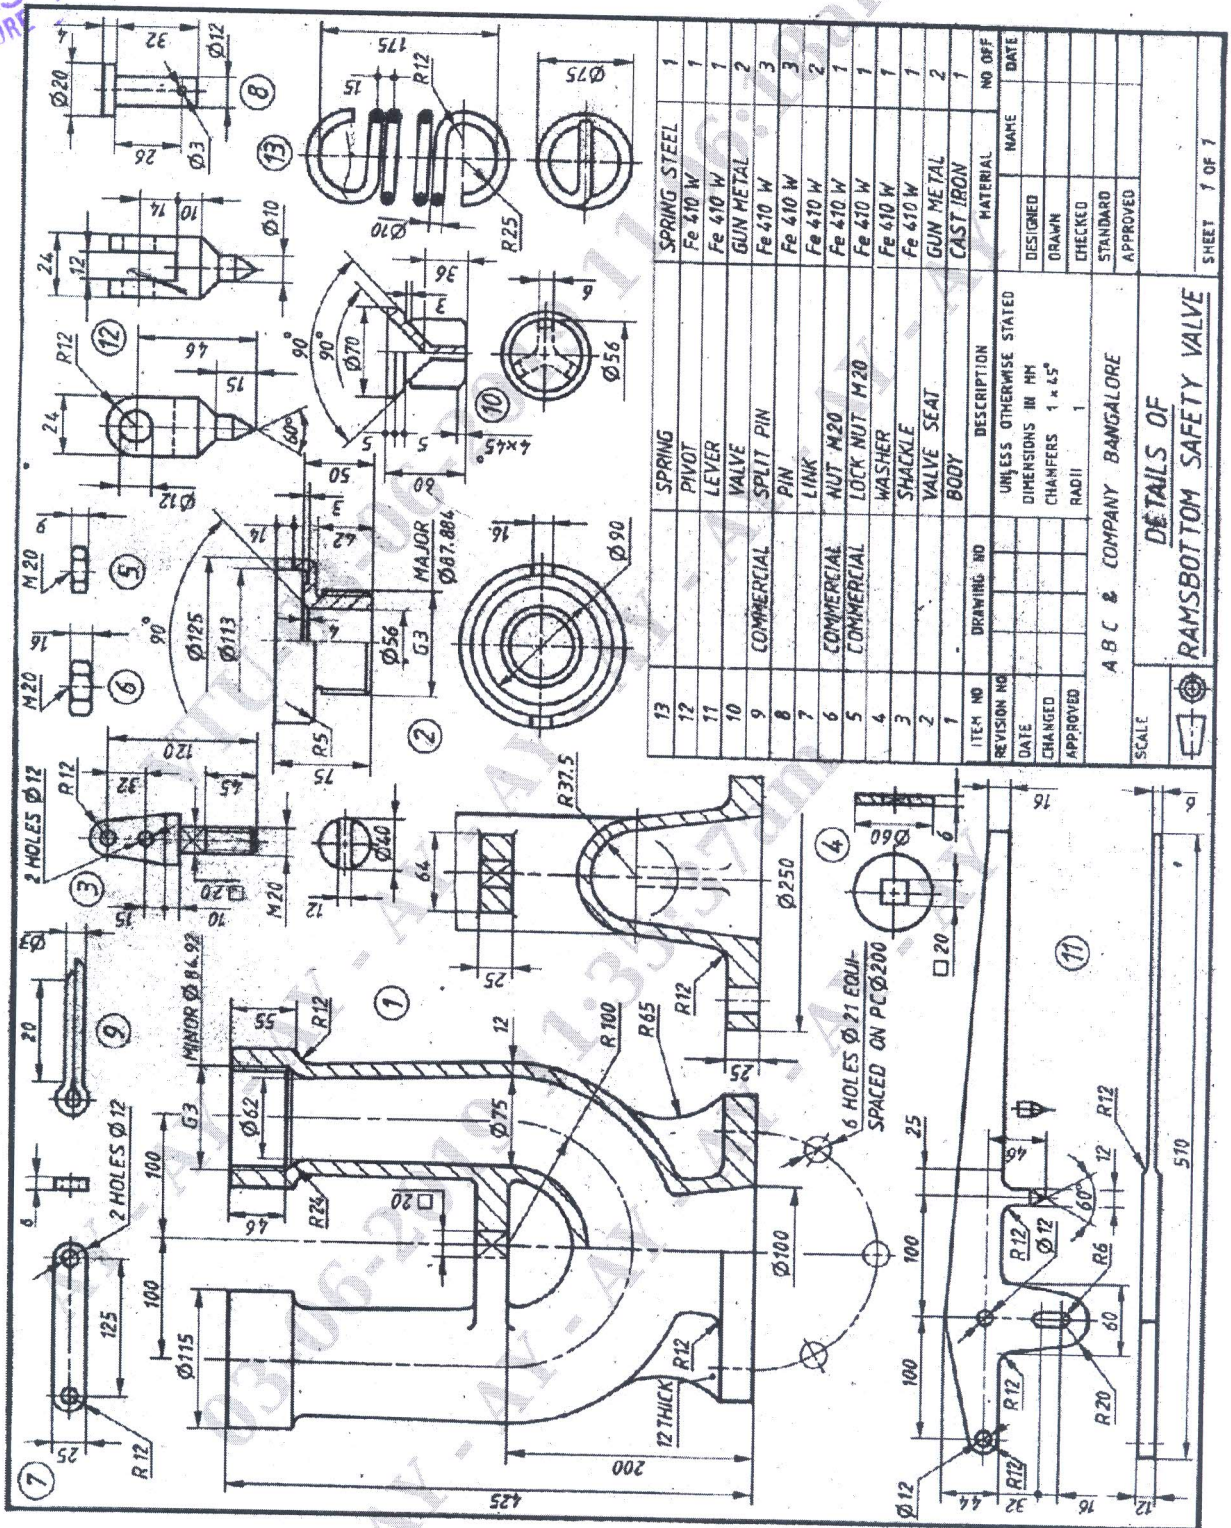

Figure 3 : Part drawing of a "RAMS BOTTOM SAFETY VALVE"
Q.No.6 Figure 3 shows the part drawing of a "RAMS BOTTOM SAFETY VALVE". Assemble parts and show the following views. (a) Sectional front view (b)Top view. **(50 Marks)**